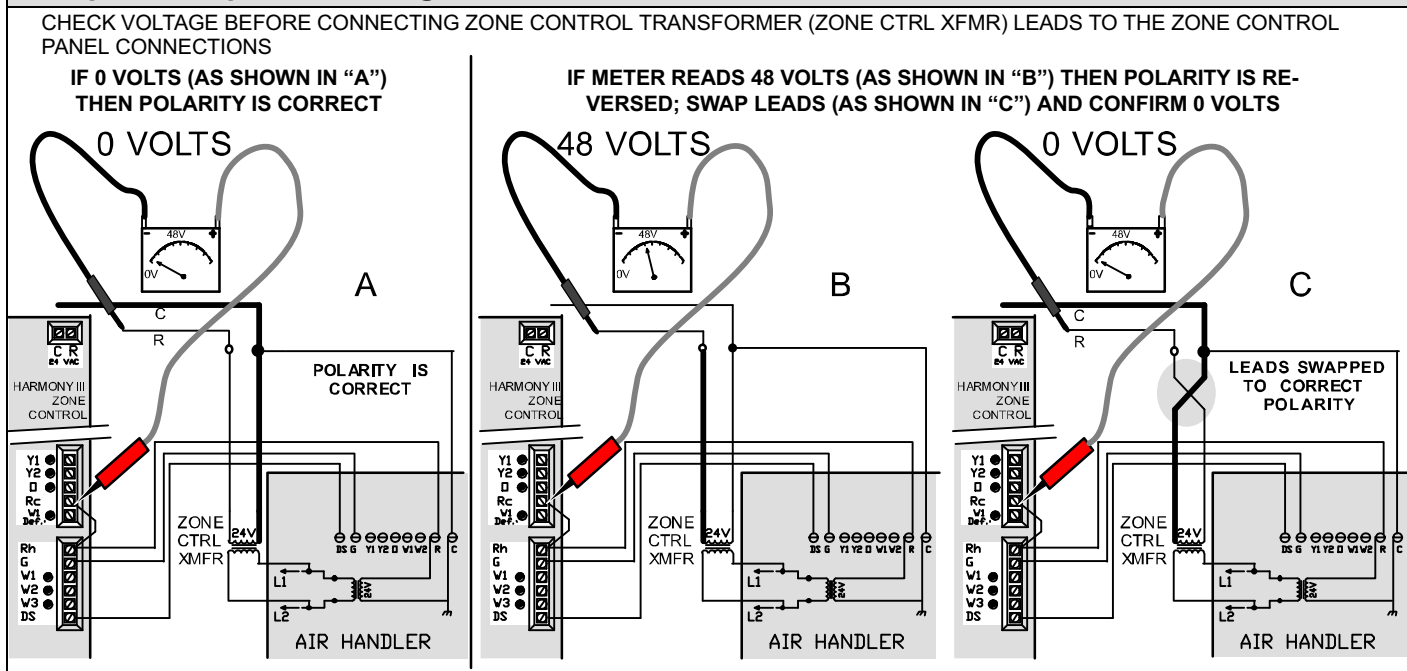

Figure 11. Confirming Transformer Phasing (polarity) is Correct
1. Connect the zone control transformer primary to the air handler voltage source (see figure 11).
4. Measure voltage between air handler **R** and unconnected zone control transformer secondary lead (see figure 11):
- if 0 volts (A, figure 11) then polarity is correct; connect the leads to zone control **C** and **R** as shown.
- if 48 volts (B, figure 11) then polarity is reversed; swap leads as shown and confirm 0 volts (C, figure 11); connect the leads to zone control **C** and **R** as shown.